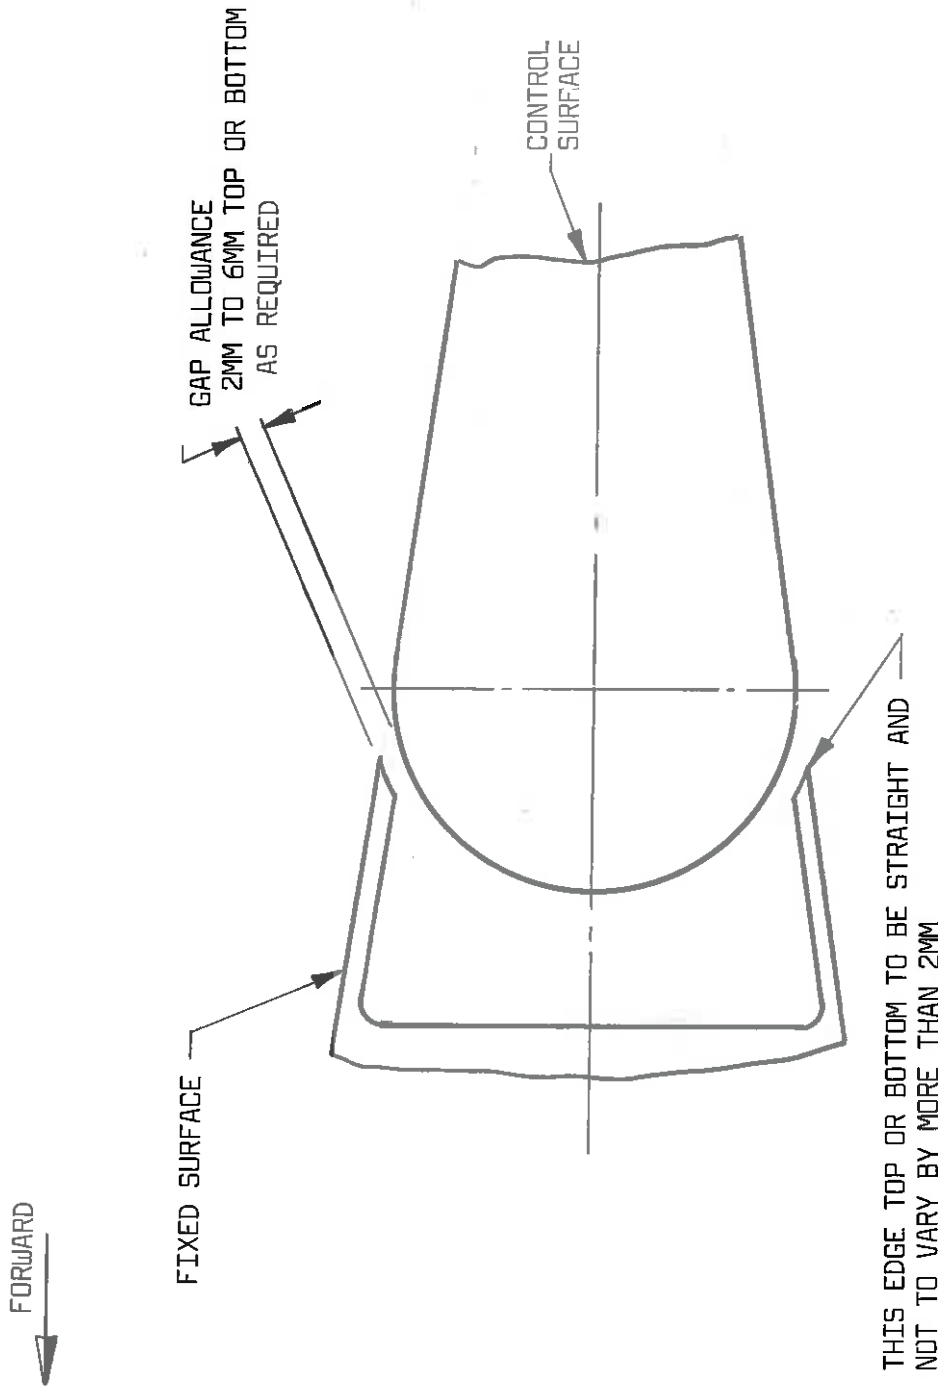

FIG 1
2. If there is evidence of rubbing between shroud and control surface then the gap may be increased by abrading relevant control surface shroud, ref. Fig. 1.